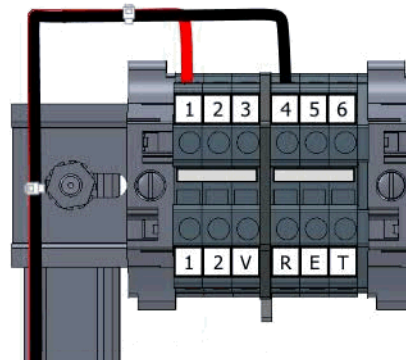

Figure 3 Install 12 V Terminal Block Wires
- Step 3. Install the red and black wires to the top of Terminal 1 and Terminal 4, respectively. See *Figure 3*.